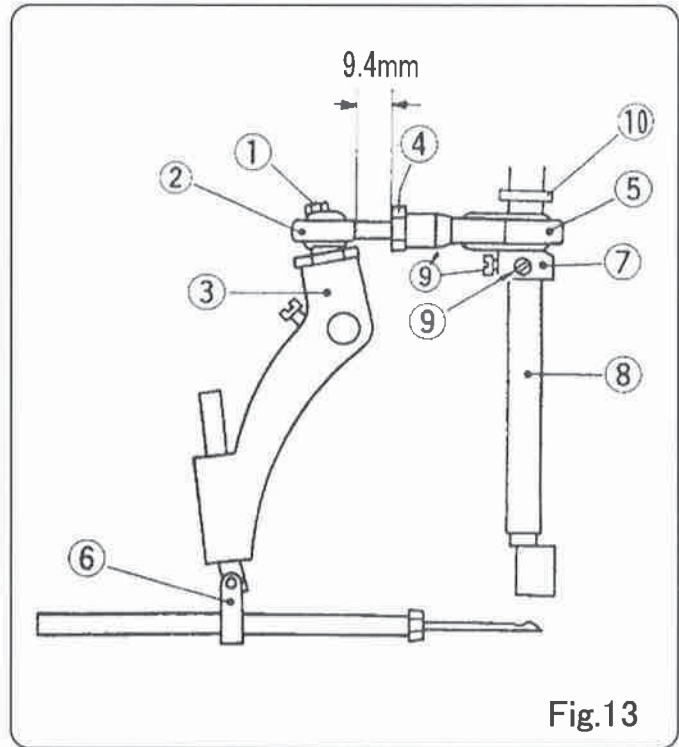
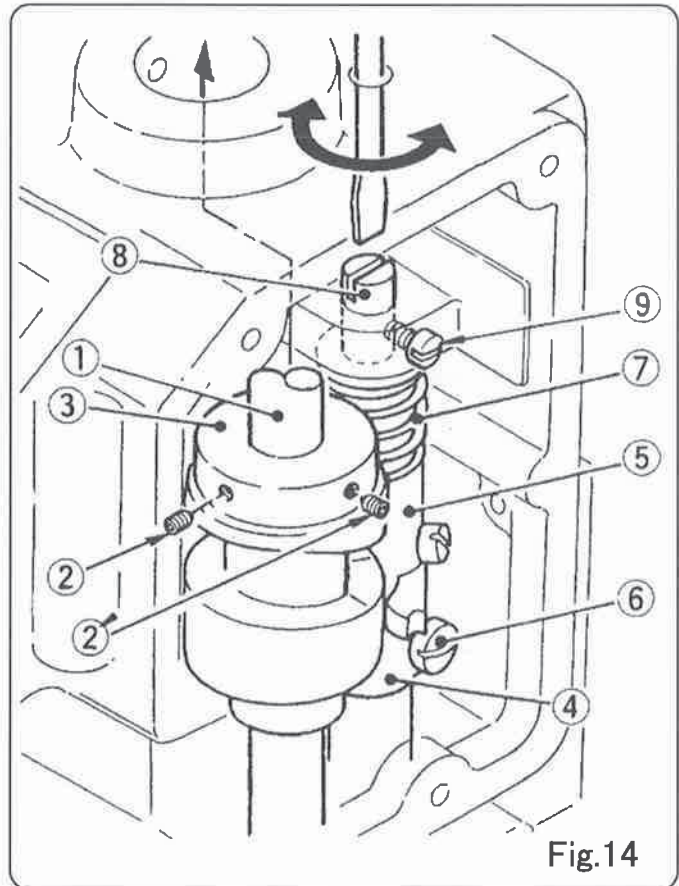

Fig.13
Fig.14
For replacement or adjustment of Ball Rod, refer to Fig.13. Take out Screw ① and disconnect Rod End ② from Needle Bar Lever ③. After loosening the Nut ④, adjust the clearance between Connecting Rod ⑤ and Rod End ②, so that Needle Bar moves in the center of the clearance between the upper and lower Presser Bar Bushings. (Needle Bar stroke is 37 mm).
The position of Needle is adjusted so that the distance between the point of Needle (at its highest position) and Throat Plate is 13 mm, after loosening screw on Needle Bar Connection Assembly ⑥ in Fig.13.
- ① Screw 11/64S40084
- ② Rod End 6A04001
- ③ Needle Bar Lever 242051A
- ④ Nut 1N8
- ⑤ Connecting Rod Assembly 242011A
- ⑥ Needle Bar Connection Assembly 242101A
- ⑦ Eccentric Cam (part of Connecting Rod Assembly) 242011
- ⑧ Main Shaft 241102
- ⑨ ⑨' Screw 11/64S40001
- ⑩ Spacer 241161
Adjust Looper Drive Cam ③ When necessary as follows:(Refer to Fig.14.).
- a) Apply the Screws ② and ②' on the taper of Main Shaft ①.
- b) Adjust Arm (B) ④, so that Looper Drive Cam ③ and Arm (A) ⑤ move smoothly. After adjusting, fix the Screw ⑥ tightly.
- c) The clearance between Looper Drive Cam ③ and Arm ⑤ is effected by Spring ⑦. Loosen Screw ⑨ and turn Spring Supporter ⑧ to adjust the pressure of Spring ⑦. After adjusting, tighten the Screw ⑨ to fasten Spring Supporter ⑧.
- ① Main Shaft 241102
- ② ②' Screw 15/64S28524
- ③ Looper Drive Cam 243012
- ④ Looper Rocker Shaft Arm (B) 243081
- ⑤ Looper Rocker Shaft Arm (A) 243071
- ⑥ Screw for Looper Rocker Shaft Arm (B) 11/64S40009
- ⑦ Spring 243131